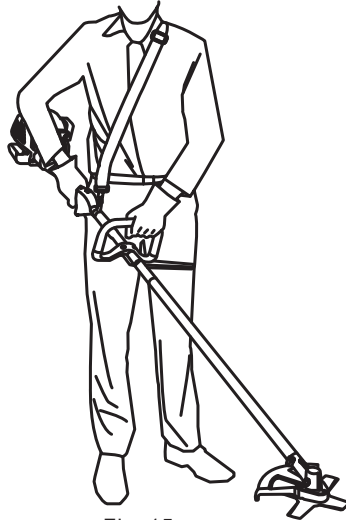

Fig. 15
3. Adjust the length of the harness (A8) so that the hook is approximately 15 cm below your waist; locate the product to the harness by using the securing clip ensuring that the angle of the cutting head is parallel to the surface being cut. (See Fig. 15)